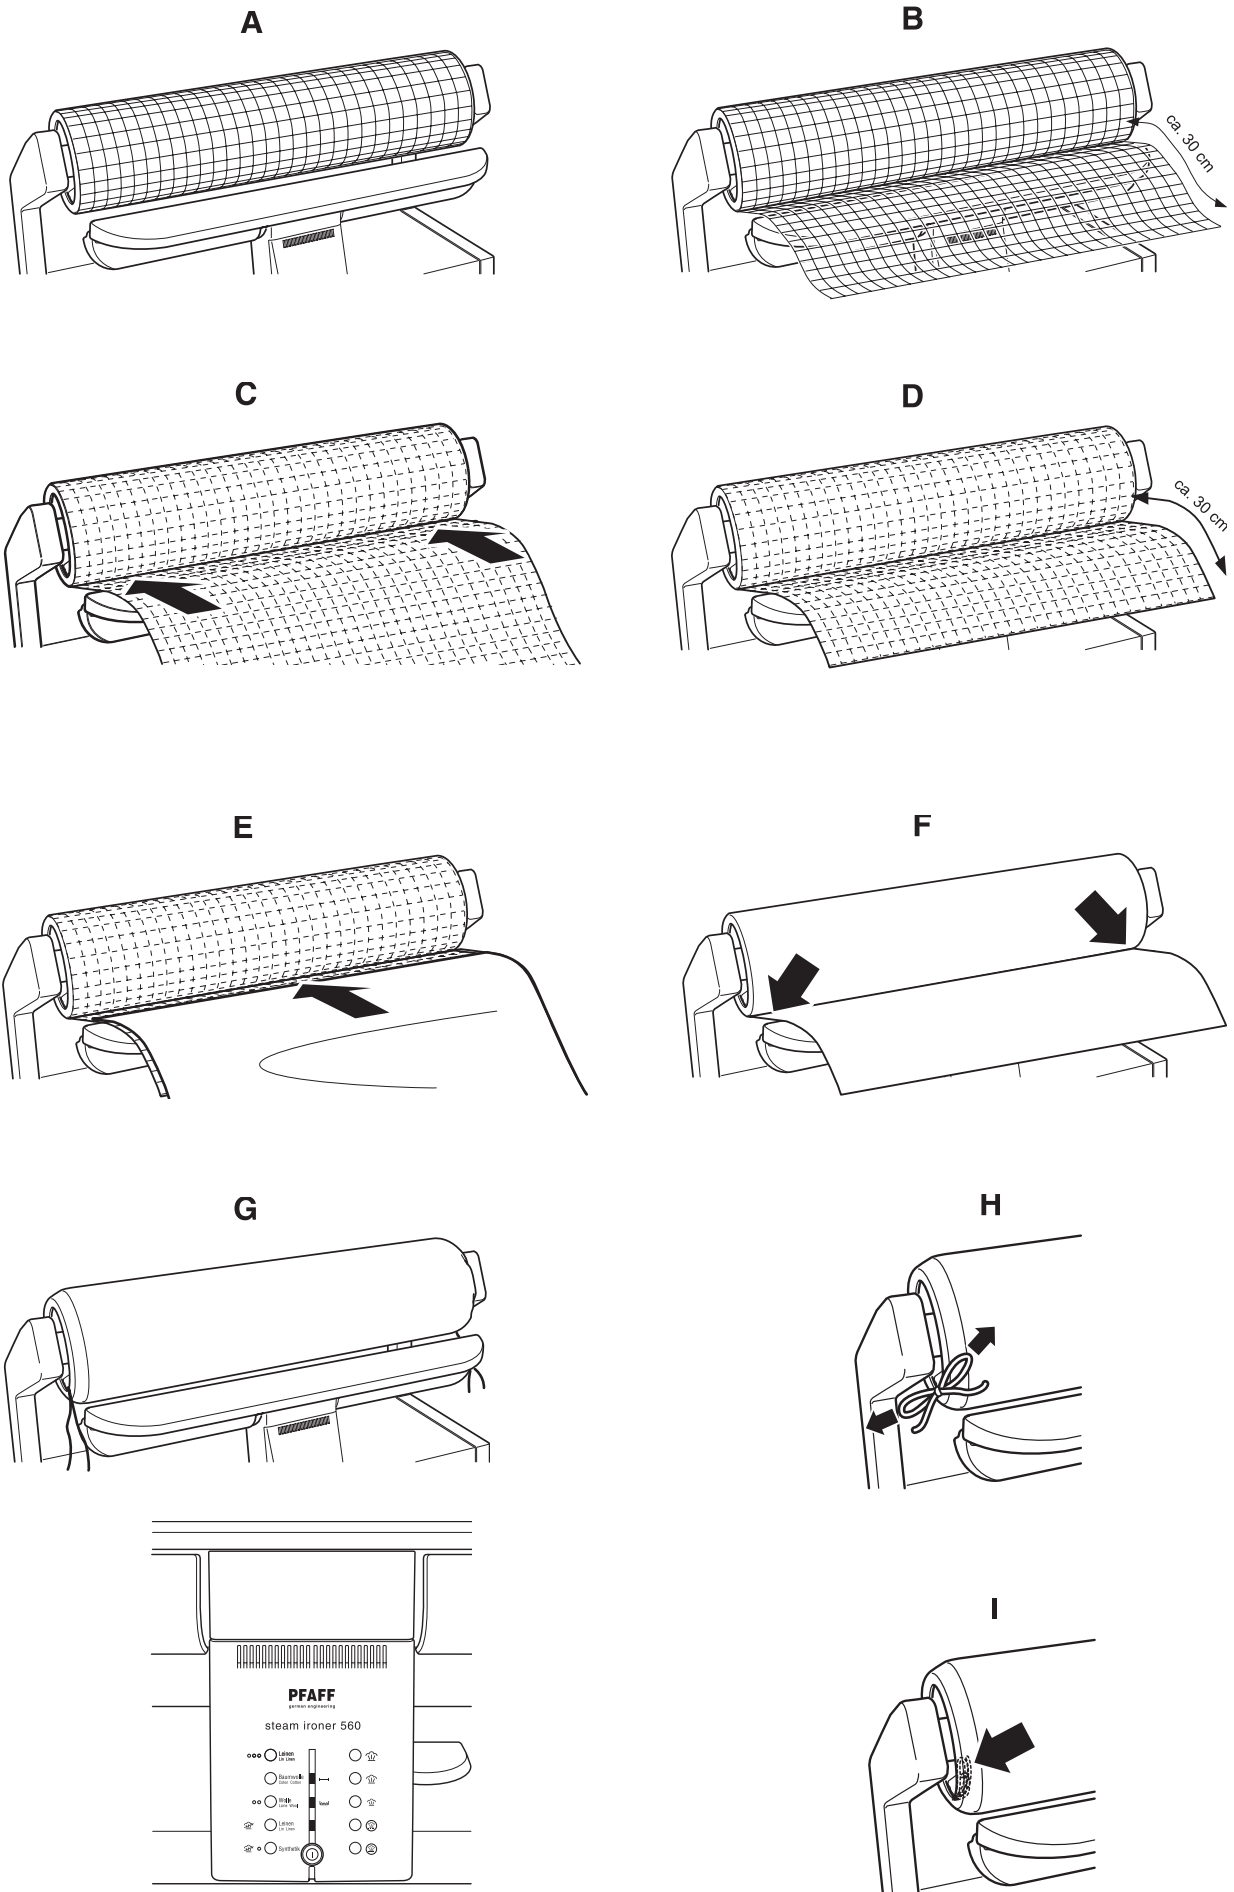

Fig. 6
- The Wrapping Program is now activated and displayed (fig. 6).